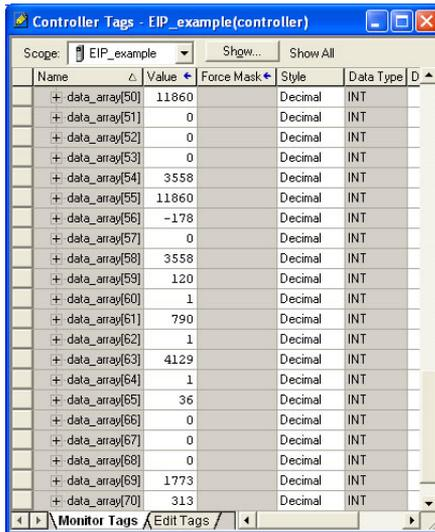

Figure 107: Viewing the Register Values
- c) Expand the data\_array tag. Refer to Figure 107.
- d) 21 register values starting at register #2050 are being continuously read from the interface card and placed in the 21 sequential offsets of data\_array starting at the 50th offset (data\_array[50]). In Figure 107, we can see that data\_array[50] (function code M01 / register 2050 / per-unit frequency reference – final command) has a value of 11860 (11860/20000 = 59.3% of max frequency), data\_array[58] (function code M09 / register 2058 / output frequency) has a value of 3558 (35.58Hz), etc.